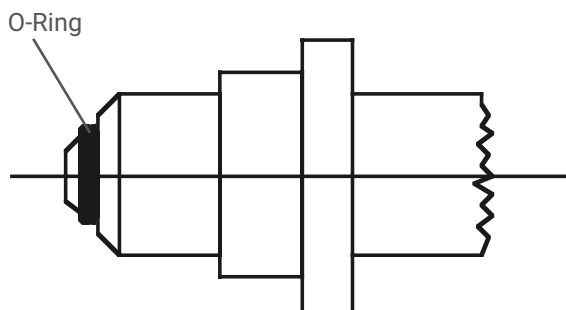

Abb. 8.10 300 bar
- 6.1.6 Check connection threads and connection surfaces of the cylinder valves and the gaskets for proper condition and fit (see Fig.8.10 / 8.11). Mount Flexible hoses / pigtails with hand connection (O-ring seal) without tools on the cylinder valve. Before connecting the flexible hose / pigtail, briefly open the cylinder valve once and then close it again, to blow out any dirt particles that may be present. Do not stand in front of the outlet opening of the of the valve (7) and make sure that no danger arises from the escaping gas. Good ventilation must be provided. Do not blow out flammable, corrosive, toxic and irritant gases.